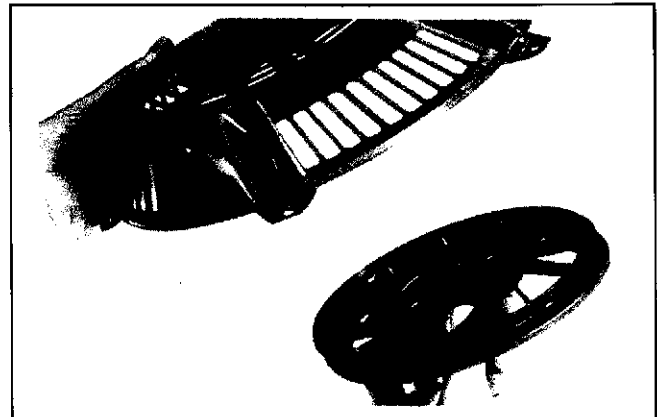

Figure 7-9. Installing Pulley and Spring into Housing.
- Make sure the spring is well lubricated with grease. Place the spring and keeper assembly inside the pulley (with spring towards pulley). See Figure 7-9.
- Install the pulley with spring and keeper assembly into the starter housing. See Figure 7-9.